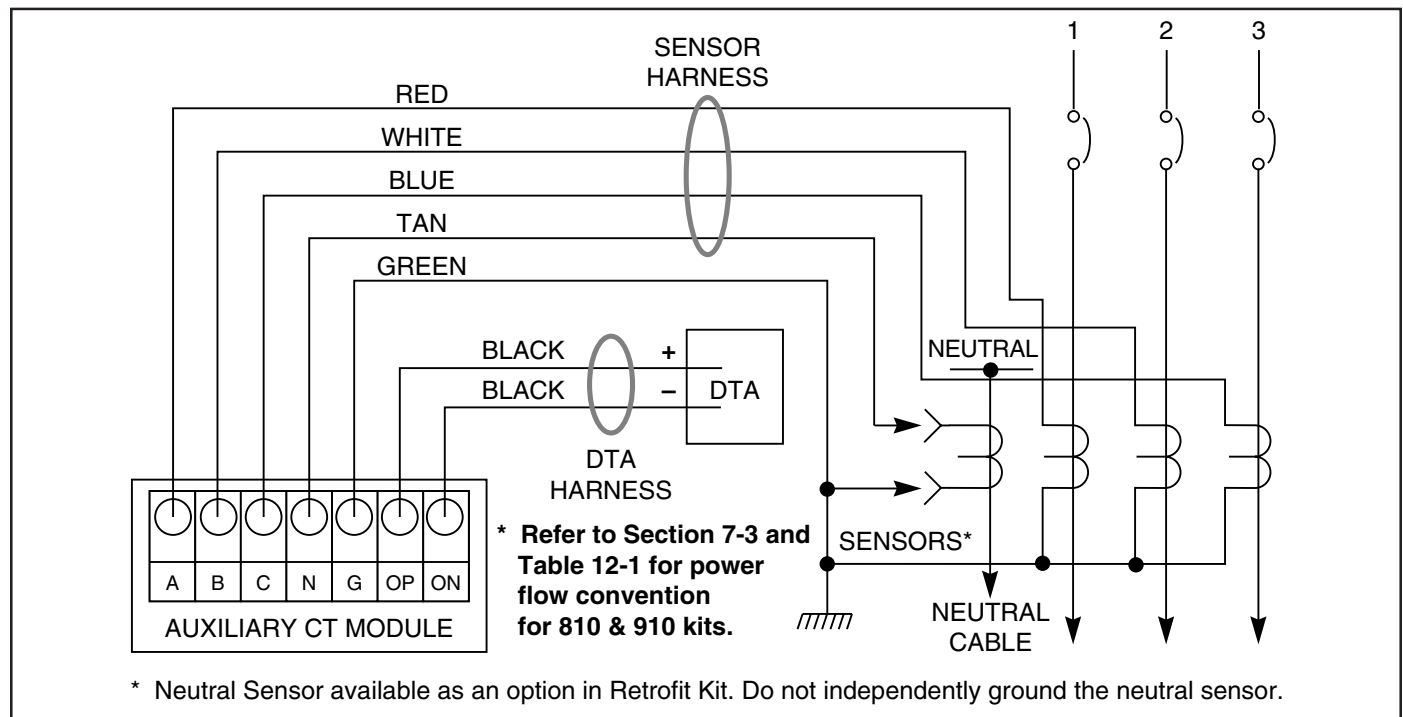

Fig. 12-3 With Ground and With Neutral Sensor 3Ø 4-Wire (LIG, LSG, LSG)
2. If the retrofit is for a 4-wire system (Figure 12-3 or 12-4,) the green and tan wires provided for the fourth connection are required for connection to an open set of Breaker Secondary Contacts.